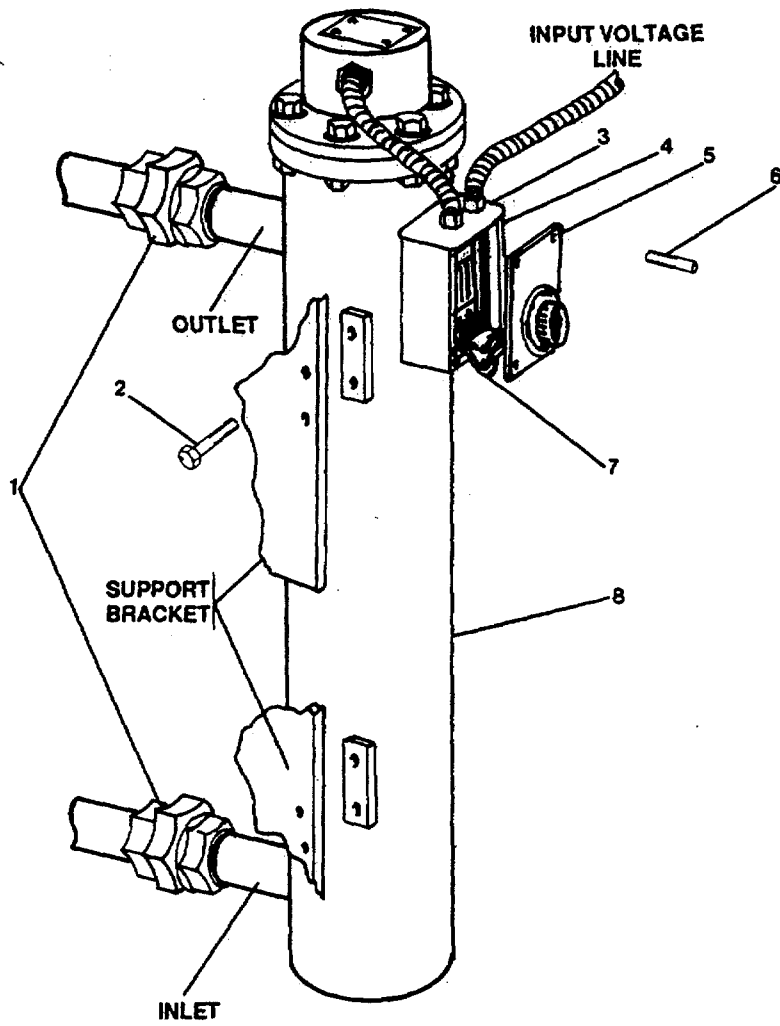

FIGURE 3-14. Circulation Heater.
- l. Position revolution indicator housing (2) on housing and secure with three machine screws (1).
- o. Install drain screw (4). Fill with oil.
**3-19. Replace Circulation Heater. (Figure 3-14)**